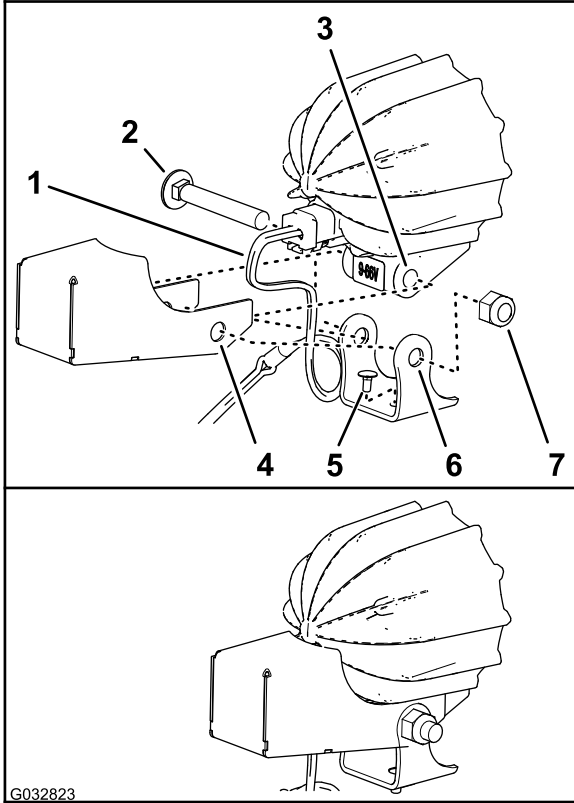

Figure 8
3. If assembled, remove the long carriage bolt and nut that secure the mount bracket to the frame of the LED light (Figure 8).
4. Ensure that the short carriage bolt is assembled through the hole in the bottom of the mounting bracket as shown in Figure 8.
5. Align the holes in the shield and mount bracket to the holes in the frame of the LED light as shown in Figure 8.
6. Assemble the shield and mount bracket to the frame of the LED light with the carriage bolt and nut (Figure 8).